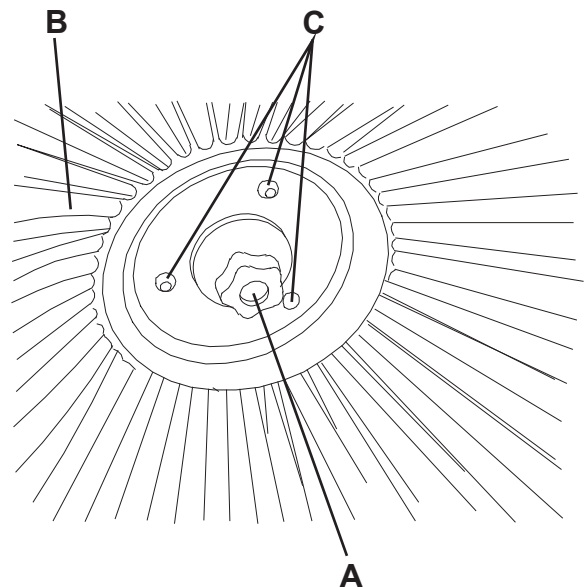

Figure 2
- Turn the main switch (1) to "0".
- Loosen the knob (A, Fig. 2) inside the side broom, then remove the broom (B) by disengaging it from the pins (C).
- Install the new broom on the machine engaging it on the pins (C), then tighten the knob (A).